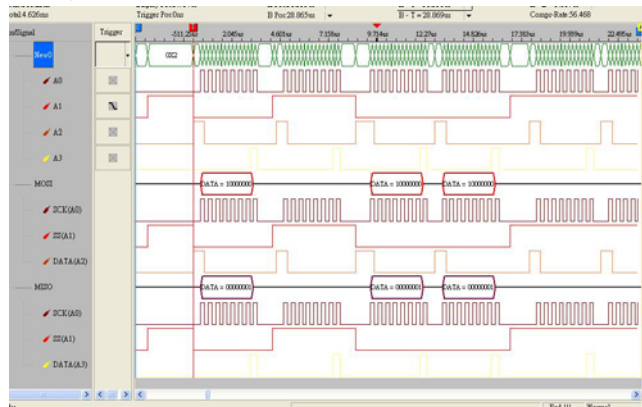

Fig 4-40 – Active SPI signal
- (5) Click on the “Don’t care data bits” function. The system will restart and count from the beginning of the data bits when the condition of the idling time set is qualified.
- (6) Click off the “Don’t care data bits” function, the system will decode the data stream until the bits of the data are received completely, when the condition of the idling time set is qualified.
- (7) Then type the name and the numbers of the data bit for the MOSI signal.
- (8) Press OK to confirm the set up of SPI custom Setting and return to the dialogue of the SPI Setting. (Tip: Press Default to reset the current Setup conditions)
- Step 6.** Click Run, then Active the SPI signal from the tested SPI circuit to acquire the result on the bottom of the wave display area as shown in Fig 4-40.